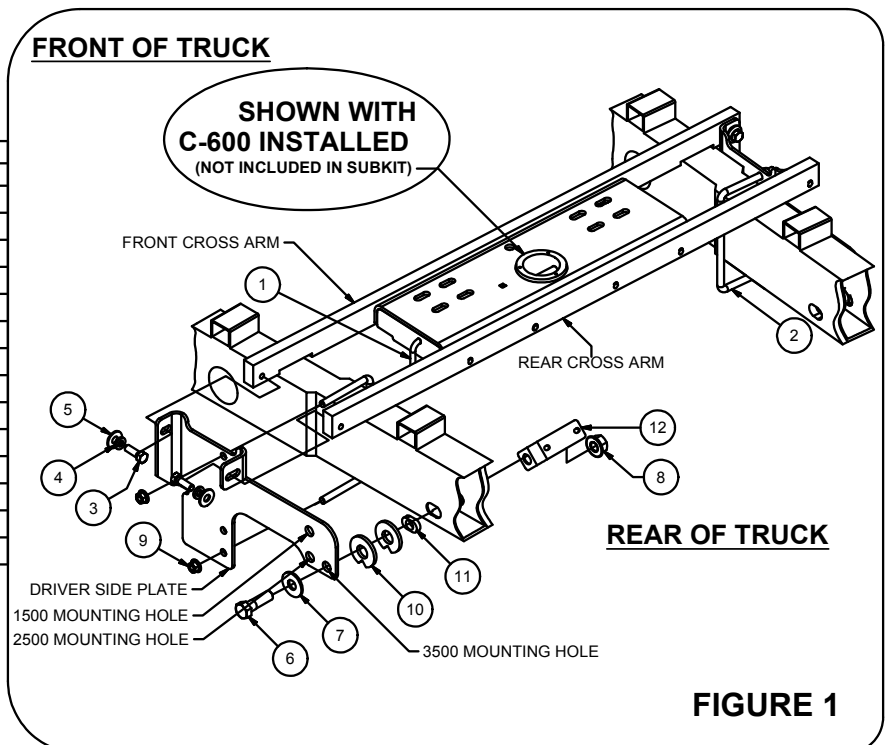

FIGURE 1
- 2) Using a 1/2" drill bit, drill the center of each slotted hole in the gooseneck. (**Note: Be sure the holes are drilled in the lower rib section of the truck bed as shown in FIGURE 1.**)
- 8) Attach the sideplates to the frame of the truck using a U-bolt and 3/4" hex bolt. **For 3/4 and 1 ton applications**, use the large U-bolt in order to span the truck frame. The smaller U-bolt is used for **1/2 ton and 3/4 ton light duty trucks**. Position the U-bolt from the inside of the truck frame, make sure not to damage or pinch the wiring harness or brake lines. Attach to the sideplate using two 1/2" flange nuts. **(Finger tight only)** Attach the rear section of the sideplate to the frame using a 3/4" hex bolt and 3/4" washer through the sideplate and frame. Finger tighten a 3/4" flange nut to the bolt on the inside of the frame. **For 3/4 and 1 ton heavy duty trucks**, use the bottom hole on the sideplate. **For 1/2 ton and 3/4 ton light duty trucks**, use the top hole on the sideplate. These are called out on **Figure 1**.